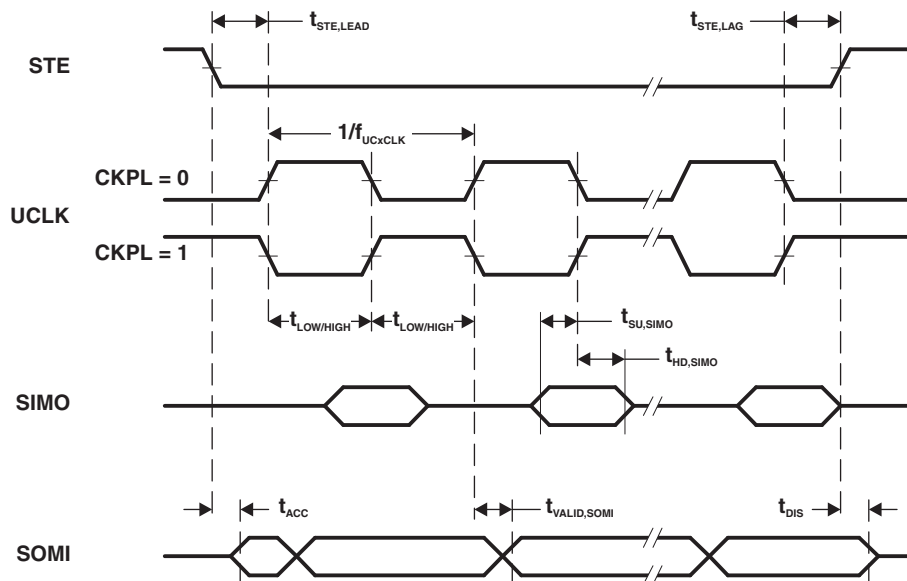

Figure 5-14. SPI Slave Mode, CKPH = 0
(1) $f_{UCXCLK} = 1/2t_{LO/HI}$ with $t_{LO/HI} \geq \max(t_{VALID,MO(Master)} + t_{SU,SI(eUSCI)}, t_{SU,MI(Master)} + t_{VALID,SO(eUSCI)})$.For the master parameters $t_{SU,MI(Master)}$ and $t_{VALID,MO(Master)}$, see the SPI parameters of the attached master.(2) Specifies the time to drive the next valid data to the SOMI output after the output changing UCLK clock edge. Refer to the timing diagrams in Figure 5-14 and Figure 5-15.(3) Specifies how long data on the SOMI output is valid after the output changing UCLK clock edge. Refer to the timing diagrams in Figure 5-14 and Figure 5-15.